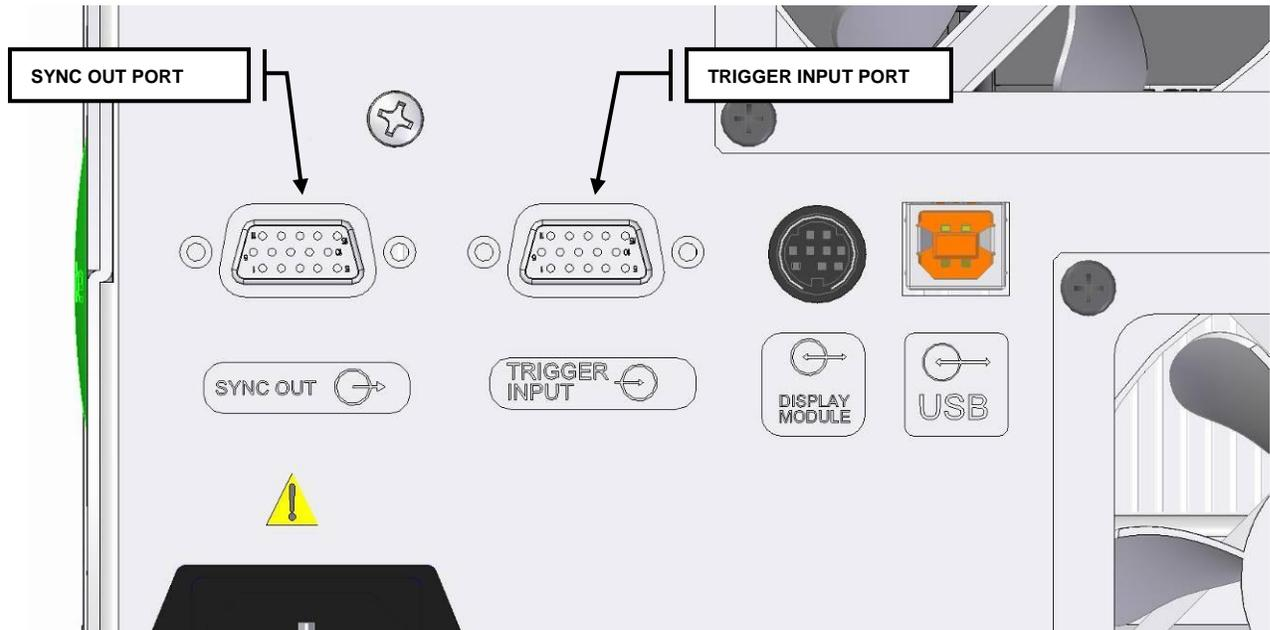

Figure 30 Terminal Block Connectors
- 9.1.1 The rear panel of the XLED1 (refer to Figure 30) has two HD15 connectors. One 15-pin HD15 connector for input triggers (refer to Table 8) and one 15-pin HD15 connector for sync output (refer to Table 9).